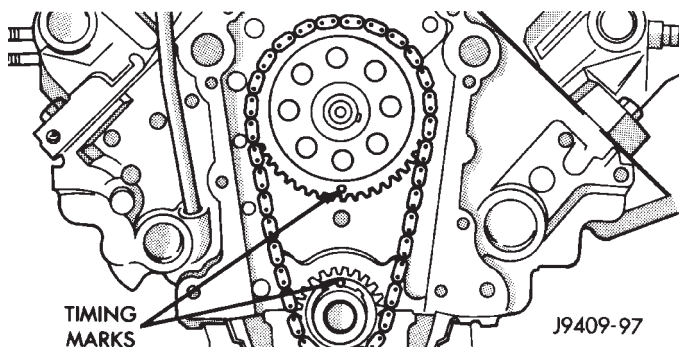

Fig. 37 Alignment of Timing Marks
- (1) Place both camshaft sprocket and crankshaft sprocket on the bench with timing marks on an exact imaginary center line through both camshaft and crankshaft bores.
- (2) Place timing chain around both sprockets.
- (3) Turn crankshaft and camshaft to line up with keyway location in crankshaft sprocket and in camshaft sprocket.
- (4) Lift sprockets and chain (keep sprockets tight against the chain in position as described).
- (5) Slide both sprockets evenly over their respective shafts and use a straightedge to check alignment of timing marks (Fig. 37).